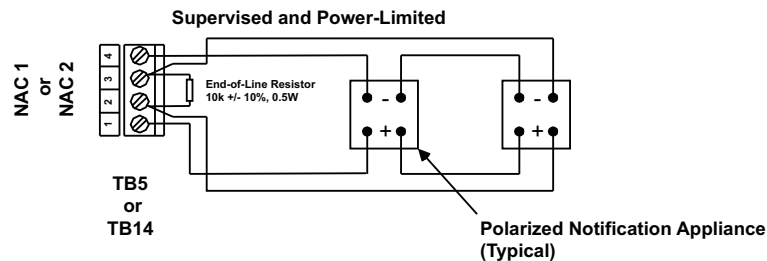

Figure 2-15. Class-A, Style-Z Notification-Appliance Circuit
- CLASS A, Style 7 wiring requires the use of Loop Isolators as shown in Figure 2-15.
Figure 2-15 shows typical wiring for a Class-A, Style-Z notification appliance circuit.